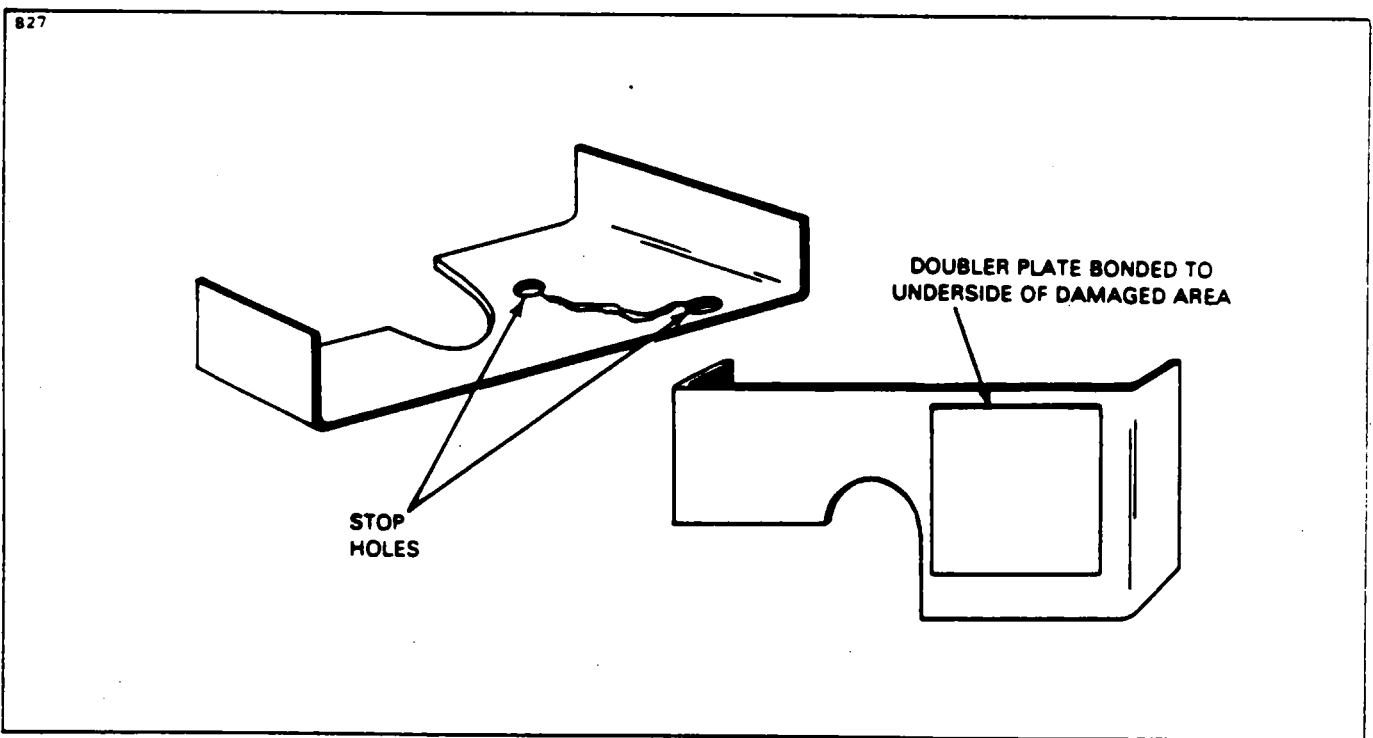

Figure 51-6. Repairing of Cracks
4. Cracks: (Refer to Figure 51-6.)